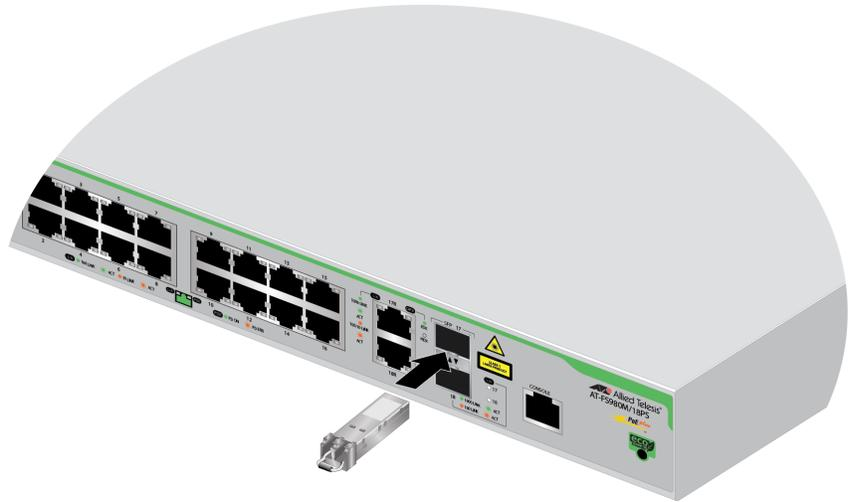

Figure 33. Installing an SFP Transceiver
3. Slide the transceiver into the slot until it clicks into place, as shown in Figure 33 on page 63.